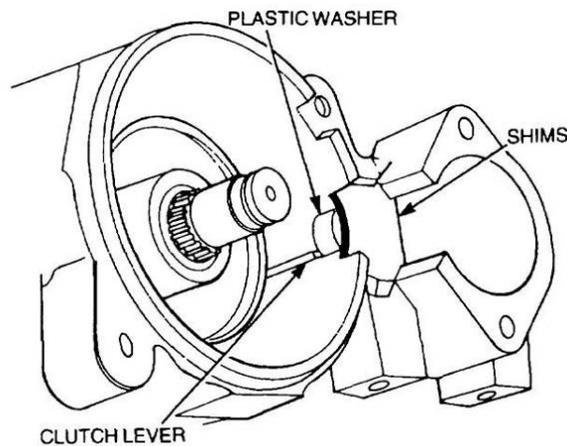

Figure 305 Removal of the Clutch Lever and Pivot Bush
- k. Remove the rubber seal from the clutch pivot bore and remove the shims and plastic spacer (Figure 305). Remove the clutch assembly, lever and pivot bush.